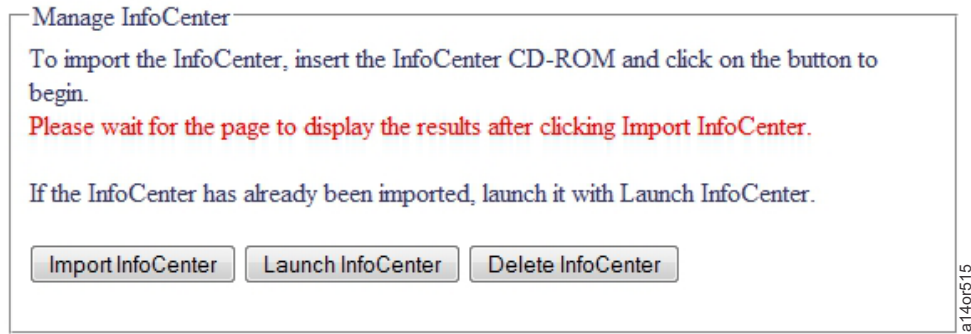
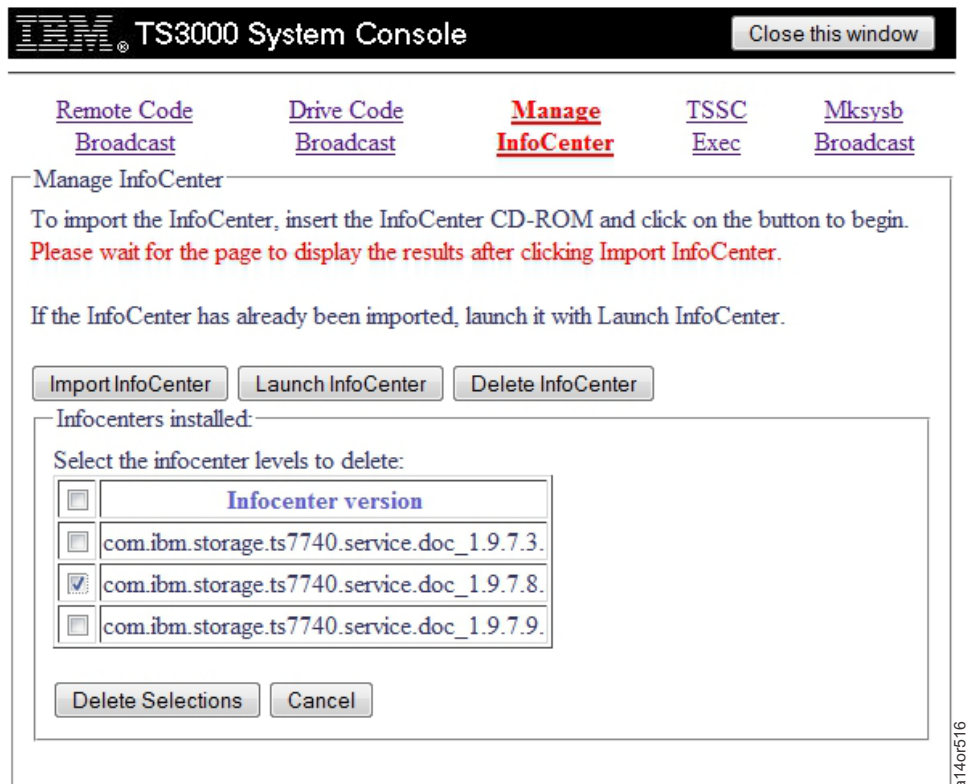

Figure 3-95. Manage InfoCenter from Web Interface
Figure 3-96. Different InfoCenter levels installed
4. Select **System Tools** > **Manage InfoCenter**. You see Figure 3-95 on page 3-75.
7. To launch the InfoCenter, from Figure 3-95, click on **Launch InfoCenter**. A new window opens in your browser which points to the InfoCenter.
8. To delete a level of InfoCenter, from Figure 3-95, click on **Delete InfoCenter**. If there is at least one level of InfoCenter installed it will be displayed in a box similar to the one shown in Figure 3-96.